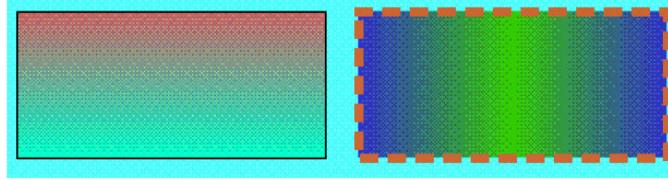

Figure 4-30: An example of a rectangle drawn
- You may adjust the properties of the rectangle using the pull-down and fine tuning button. SKWorkshop provides 15 frame line types, 10 frame line widths, and 21 filling patterns for rectangle to make the graph more beautiful and vivid. See Figure 4-30.